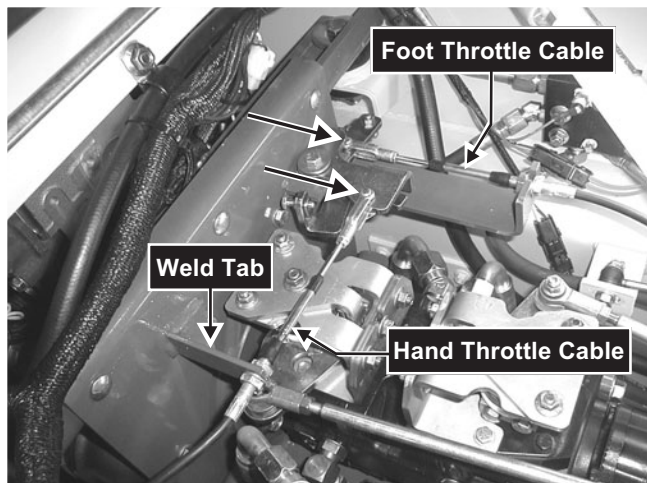

Fig. 6-50 Locations to remove hand throttle cable and foot throttle cable from pivots.
5. At engine mount weldment, remove clevis pin and cotter pin on yoke end attaching other end of throttle cable to hand throttle pivot. **Fig. 6-50**
NOTE: T-Bar and Dual Hand model skid loaders will have the foot pedal throttle cable attached to its own throttle pivot at same place. Perform “Foot Throttle Removal and Installation” procedure in this chapter to remove that cable. **Fig. 6-50**
6. Loosen jam nut securing hand throttle cable to tab welded on engine mount weldment. **Fig. 6-50**